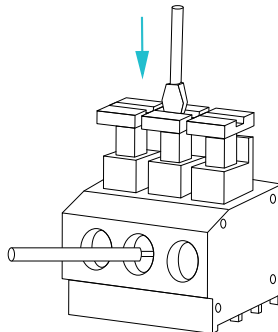

Figure 4 AcuTEMS DM Push Button Terminal Block
3. To remove the wire, push in the button to open the spring, allowing the wire to be pulled out. Refer to Figure 4 for details.